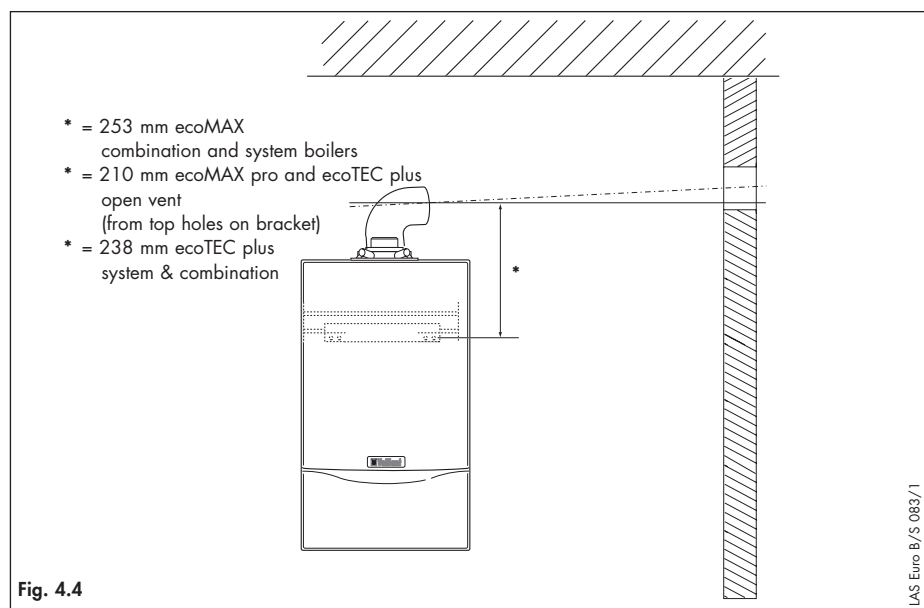

Fig. 4.4
- The position of the flue exit hole should allow the flue to be installed with an upwards slope towards the terminal of approximately  $3^\circ \pm 1^\circ$ , equivalent to  $50 \text{ mm} \pm 20 \text{ mm}$  rise per metre of flue length. Calculate the required rise according to the flue length and mark the position of the flue exit hole (fig 4.4).